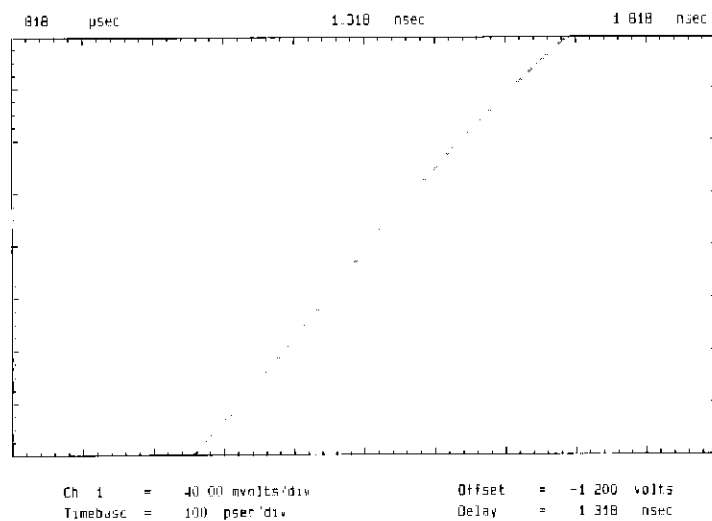

Figure 3-5 Waveform when adjustment is **correct**.
14. Refer to figure 3-5 for desired waveform at correct adjustment. A8R4 is adjusted correctly when there is a continuous smooth trace where there once was discontinuity.